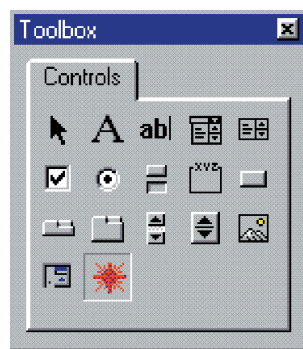

Figure 12-1 WinMark Pro's ActiveX control in VB Toolbox
- 6 Click OK. A *Toolbox* window with the Synrad WinMark ActiveX control (laser starburst icon) should appear as shown in Figure 12-1.